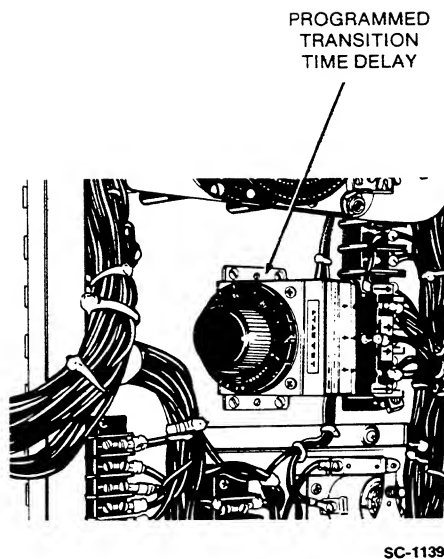

FIGURE 8. LOCATION OF PROGRAMMED TRANSITION TIME DELAY
1. Locate the programmed transition time delay on the left inside wall of the cabinet (Figure 8). It normally has factory settings for a few seconds. If the setting is satisfactory, proceed to next check. Otherwise, proceed to Step 2.